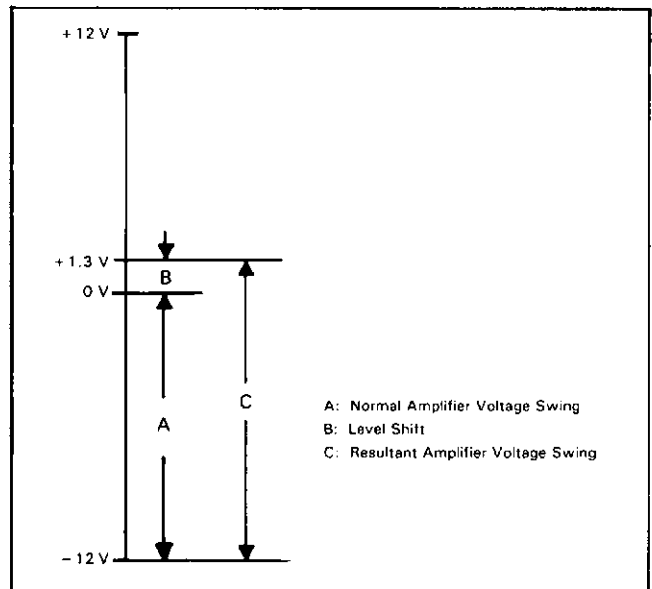

Figure 8-29. Level Shift for Low Ohms Offset Circuit.
8-134. Figure 8-29 and 8-30 illustrate how this circuit operates. The negative voltage swing at the output of the Input Amplifier is normally between 0 V and -12 V (A). The low ohms offset circuit level shifts the dc reference at the amplifier output from 0 V to +1.3 V (B) which increases the amplifier voltage swing range from 12 V (A) to 13.3 V (C). This is done by moving the bottom of, part of the U200 resistor divider from ground to -12 V_a.